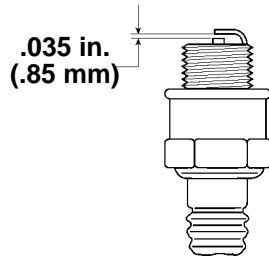

Figure 24
3. Set spark plug gap at .035 inch (.85 mm) (Fig. 24).